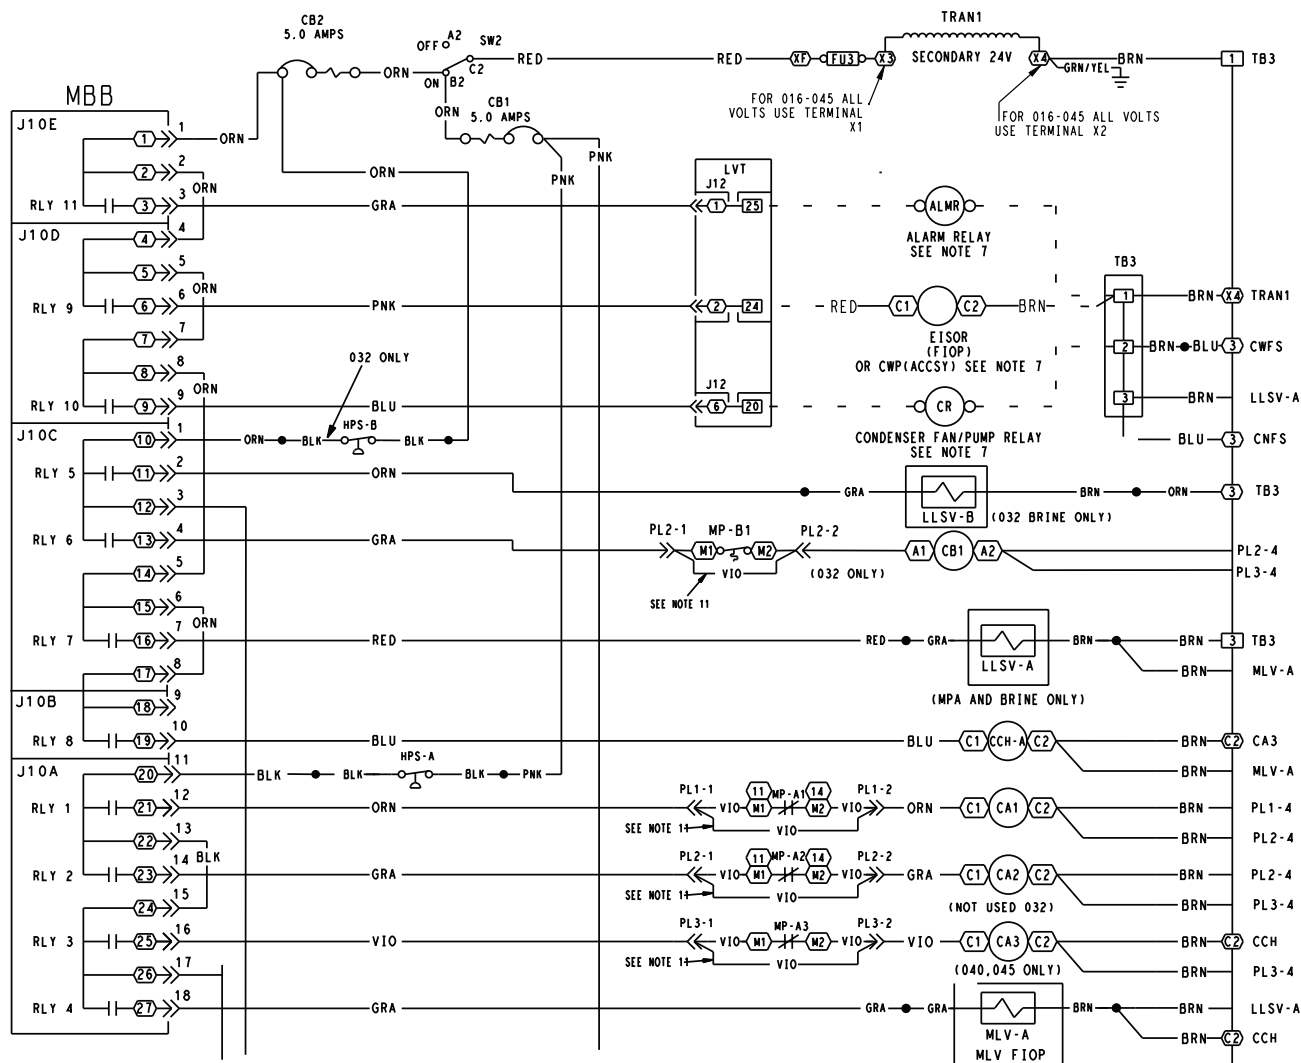

Fig. 11 — Solenoid Coil Wiring (30MPA, 30MPW)
3. Cut off the capped ends, strip the wires back 1/2-in., and wire the solenoid coil(s) to the MLV terminals. See Fig. 11.